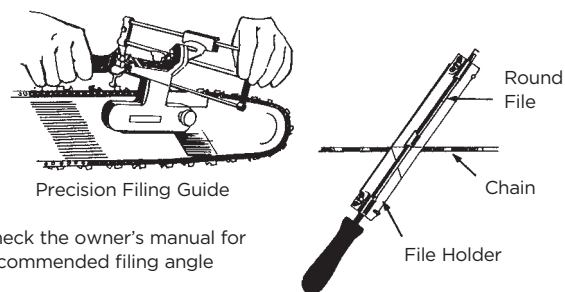

Figure 38-28: Sharpening Tools
- A round file used in combination with a file holder will give the best results (Figure 38-28).